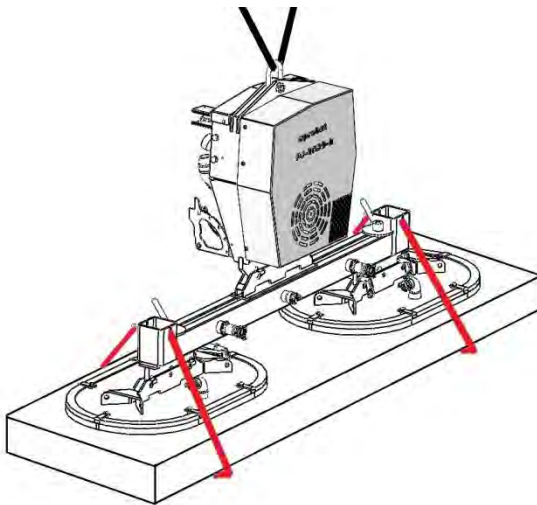

Fig. 1
The suction plates must always have the *same* distance (A) to the vertical centre axis of the crossbar (see figure 1).
- The safety chains must fit tightly to the load, in that way that the load is held in case of a vacuum failure (Fig. 1)